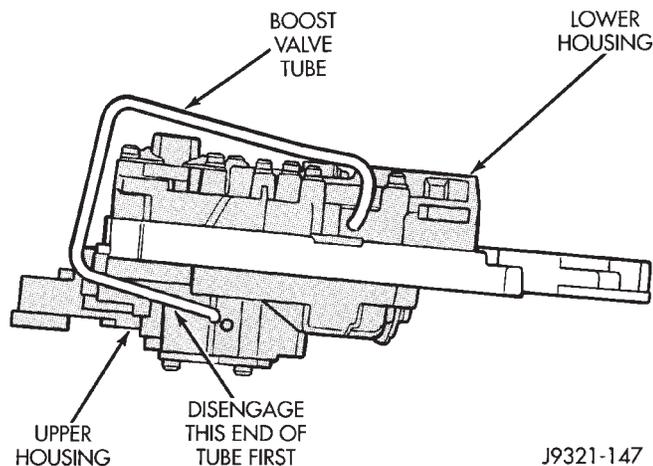
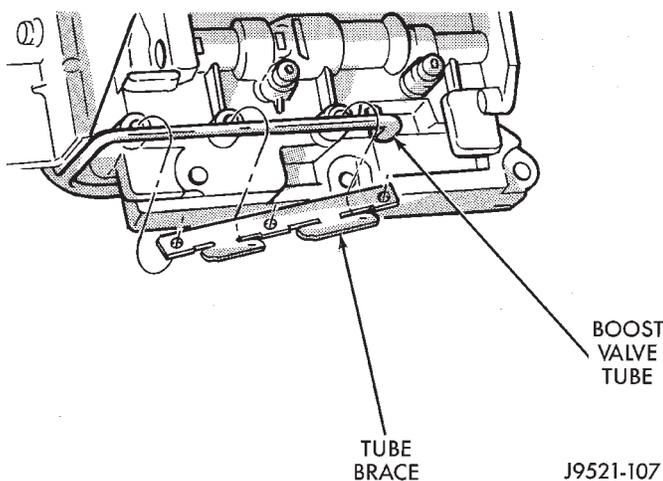

Fig. 105 Boost Valve Tube
Fig. 106 Boost Valve Tube And Brace
- (1) Position valve body assembly so lower housing is facing upward (Fig. 105).
- (2) Lubricate tube ends and housing ports with transmission fluid or petroleum jelly.
- (3) Start tube in lower housing port first. Then swing tube downward and work opposite end of tube into upper housing port (Fig. 105).
- (4) Insert and seat each end of tube in housings.
- (5) Slide tube brace under tube and into alignment with valve body screw holes (Fig. 106).
- (6) Install and finger tighten three screws that secure tube brace to valve body housings (Fig. 106).